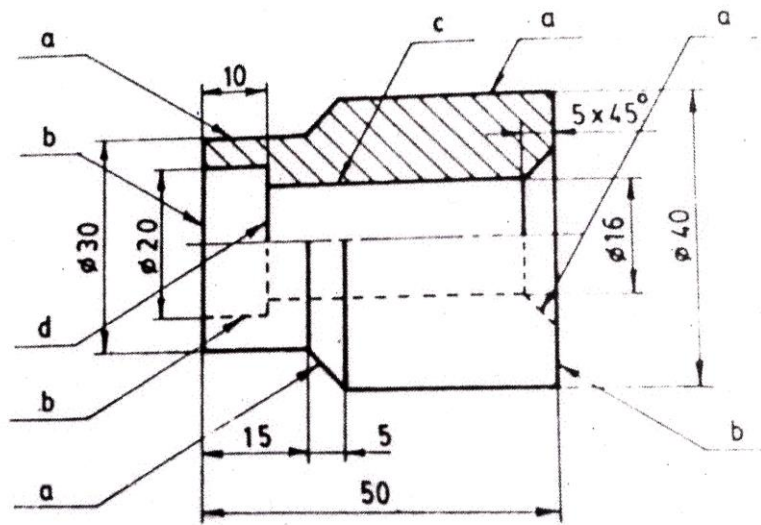

Fig 3. Brass Bush
- III. Fig.3 shows top half sectional elevation of a Brass bush. The surfaces indicated by lower case letters are to be machined as detailed below: